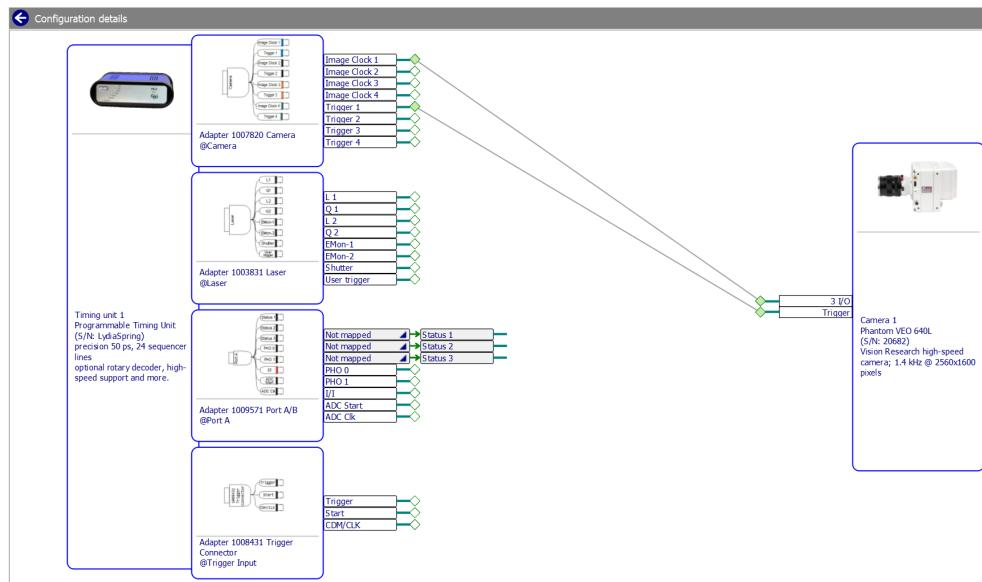
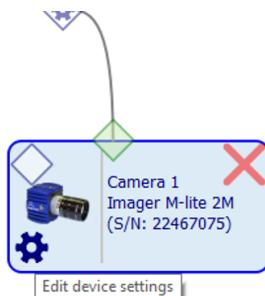
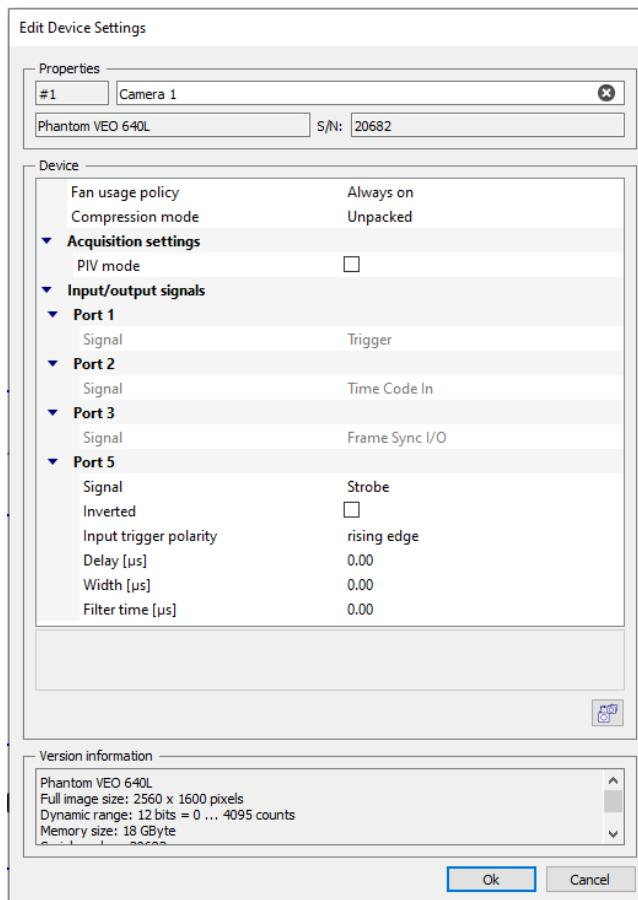

Figure 5.5: The Configuration details of a connection line
Figure 5.6: Hovering over an item and clicking on the cogwheel symbol opens the **Edit Device Settings** dialog.
Figure 5.7: The **Edit Device Settings** dialog
To see or edit the configuration details, click on the **cogwheel** button at the toolbar **③** or at the connection lines **④** (see margin). The dialog in Fig. 5.5 opens.
The settings of the camera can be changed in the **Edit Device** dialog (Fig. 5.7). This can be accessed by clicking on the cogwheel which appears when you move the mouse cursor over the camera item, either in the **Configuration details** window (Fig. 5.5) or in the **Configuration overview** window (Fig. 5.6).